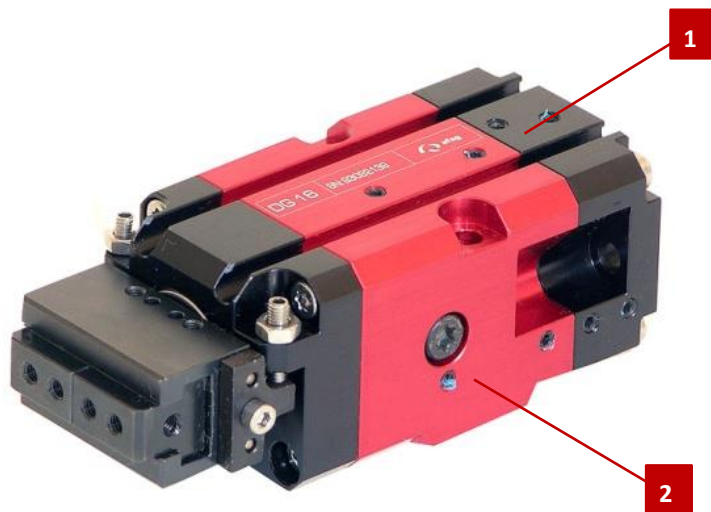

Fig. 17 Example rotary gripper DG 16
- Black part of the rotary gripper module (Fig. 17, 1): Connections for the gripping movement.
- Red part of the rotary gripper module (Fig. 17, 2): Connections for the rotation of the gripping jaws.